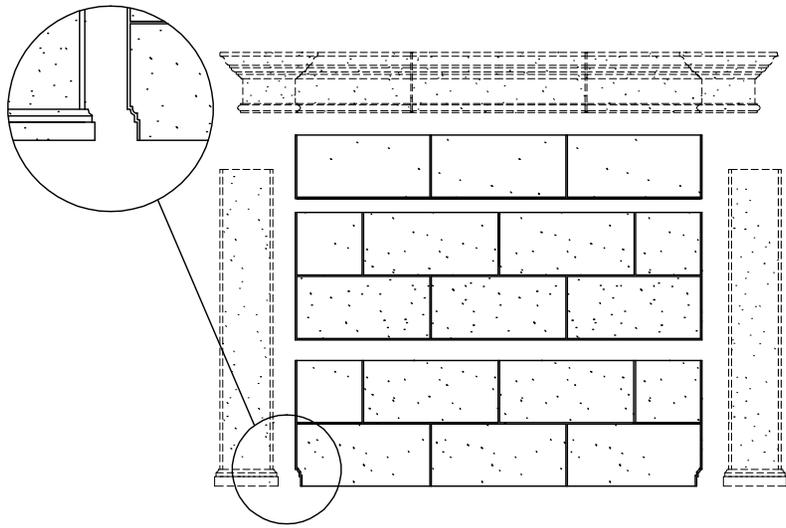

Fig. 1.1
- (a) Place bottom portion of insert between overmantel legs (this piece is identified by the notched corners) (Fig 1.1).